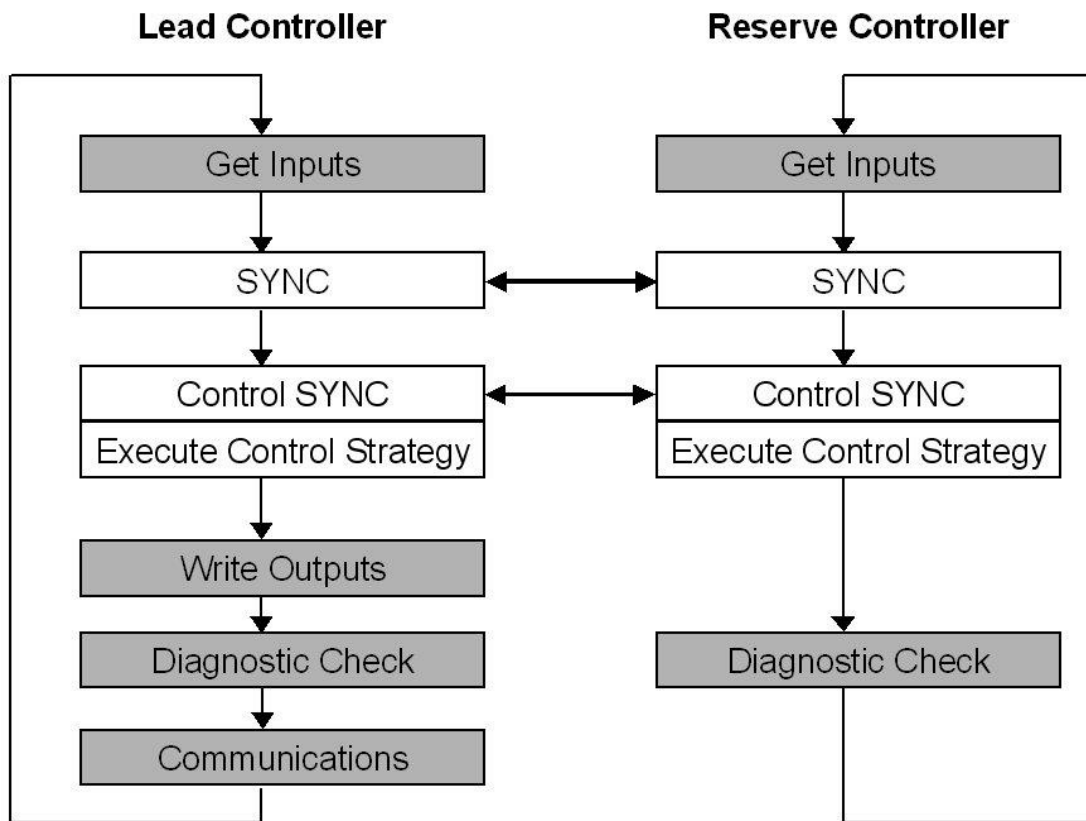

Figure 100 – Lead/Controller synchronization
- Both the Lead and Reserve Controllers execute the function blocks in the control strategy, but only the Lead Controller writes the physical outputs to the I/O Racks. See Figure 100.